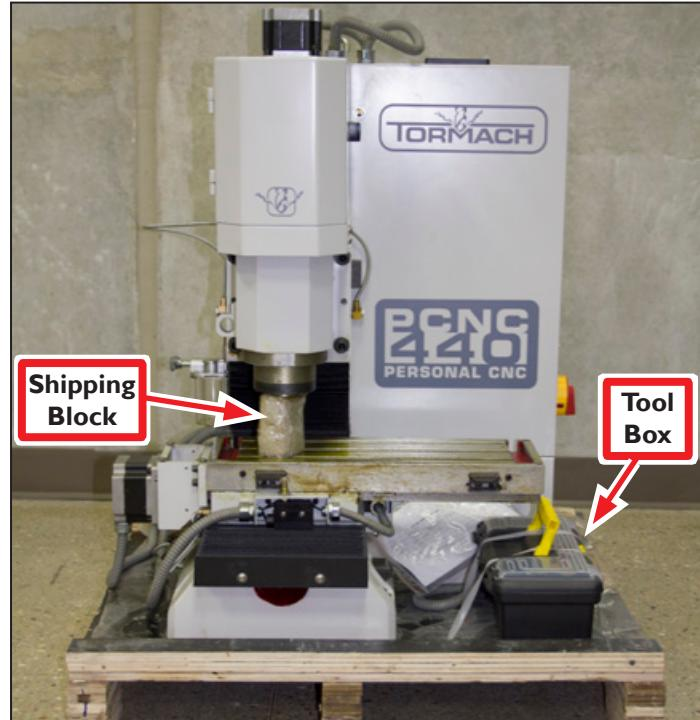

Figure 3.2
Using a pry bar, open and disassemble shipping crate by removing the top of crate first, followed by four sides. Be careful with nails. **Figure 3.2** shows the mill with the shipping crate removed.
- Carefully cut straps to remove plastic Tool Box strapped to pallet (see **Figure 3.2**); set aside for use later. This box contains tools required for installation.